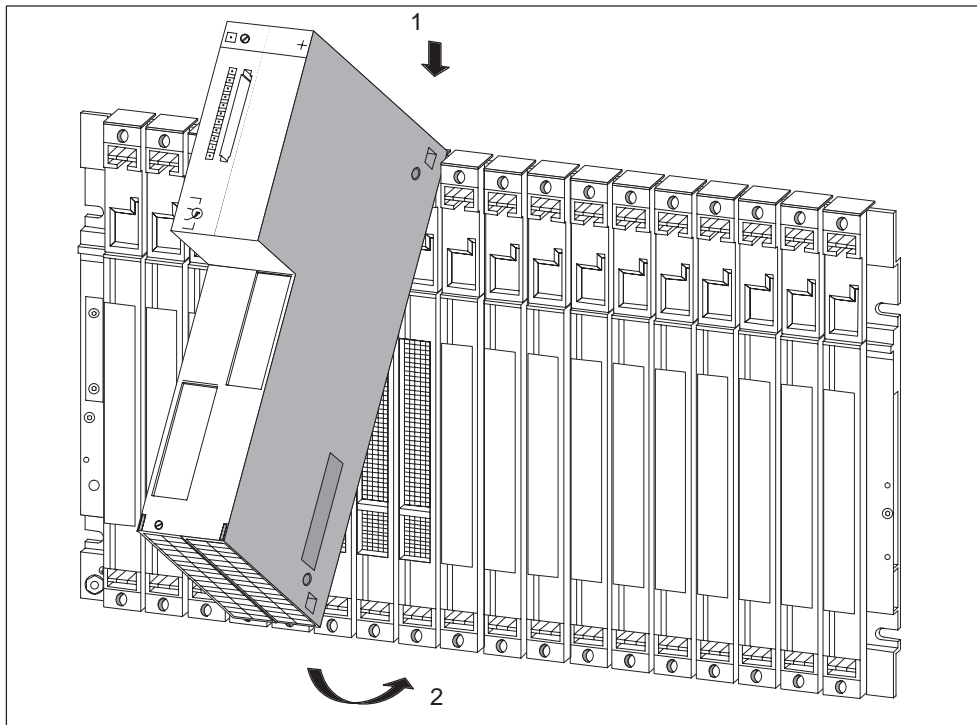
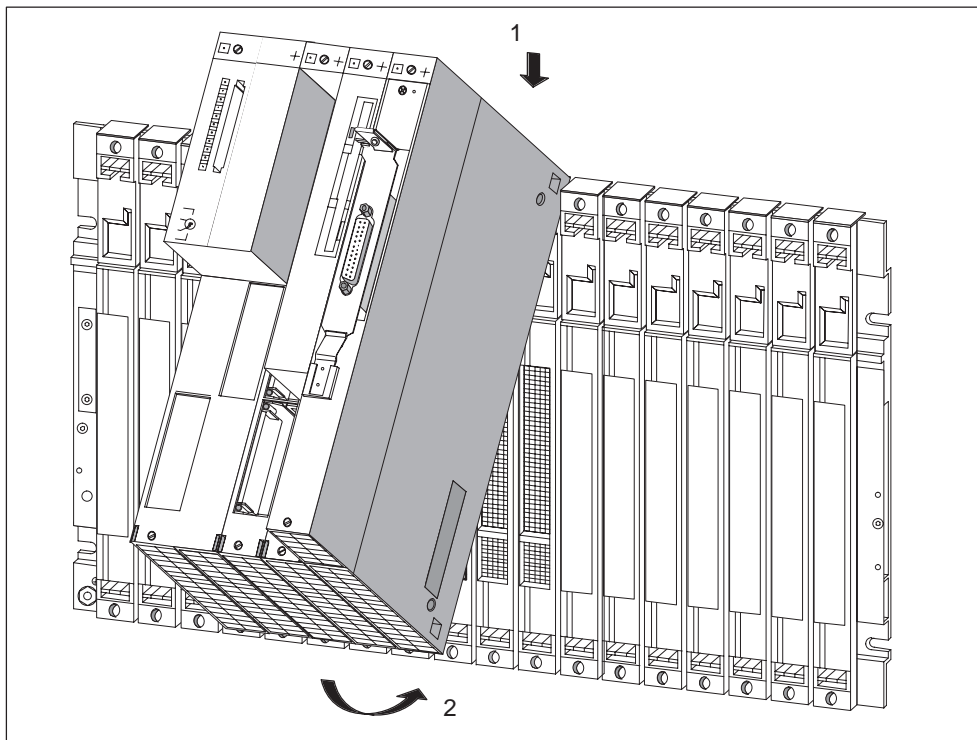

Figure 2-9 Fitting an FM 456-2 Application Function Module onto the Rack and Swinging it into Place
Figure 2-10 Fitting a Module Assembly Consisting of FM 456-2 and Expansion Modules onto the Rack and Swinging it into Place
4. Hang the module (see Figure 2-9) or the module assembly (see Figure 2-10) onto the rack and swing it downwards without applying pressure from above (1).
Figures 2-9 and 2-10 show how to fit a module or module assembly onto a module rack and swing it into place.